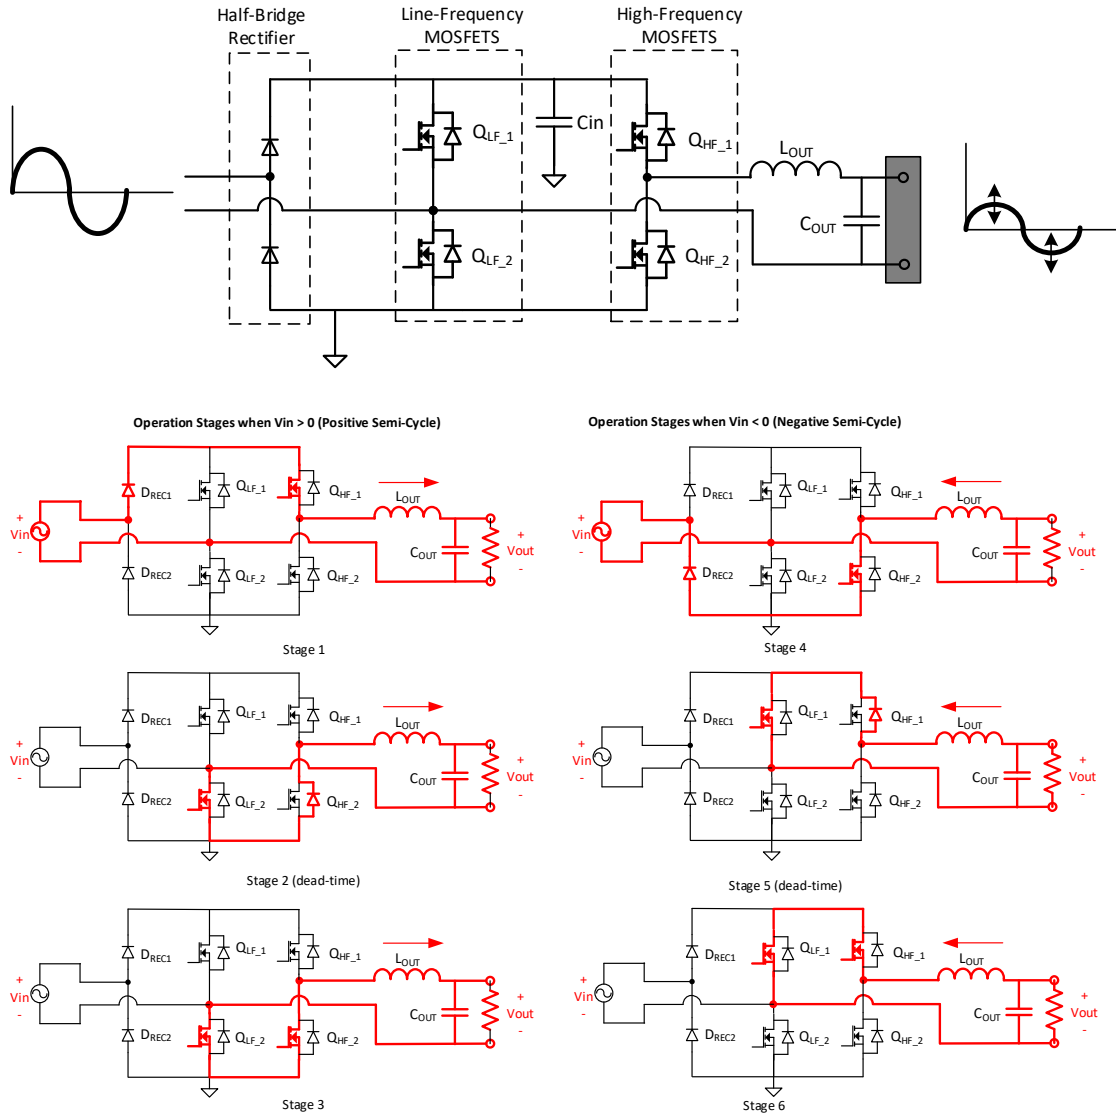

Figure 4 Operation stages and circuit diagram of Input Half-Bridge Totem-Pole Inverter
The Input Half-Rectified Totem-Pole Inverter consist of removing one of the legs of the input full-bridge rectifier and connecting one of the input poles to the Line-Frequency leg mid-point. **Figure 4** shows the equivalent circuit and operating stages of this topology.
- Unlike the Full-Bridge Rectifier, the conduction losses are more than half because not only one rectifier leg is removed but also the RMS current value through Line-Frequency MOSFETs are reduced for a same Load condition. This is because during the ON Stages (See Stage 1 and 4 of **Figure 4**) the Line-Freq. MOSFETs are not conducting as other topologies do.